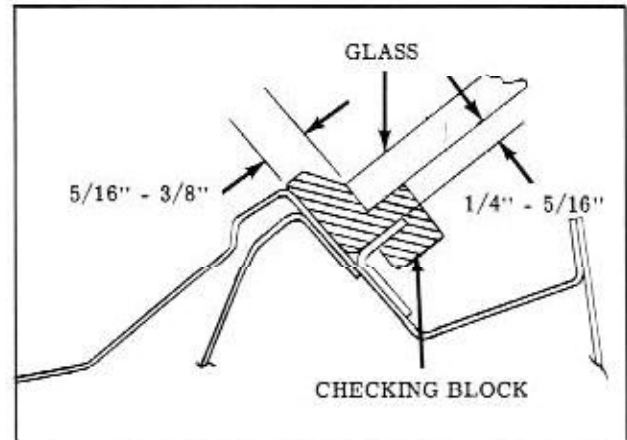

Fig. 17-8 Windshield Check Dimensions
6. With windshield supported and centered in the body opening by checking blocks, check relationship of glass to body opening around entire perimeter of glass. Fig. 17-8 shows a typical section taken through the glass channel and body opening. Check glass to body relationship as follows: